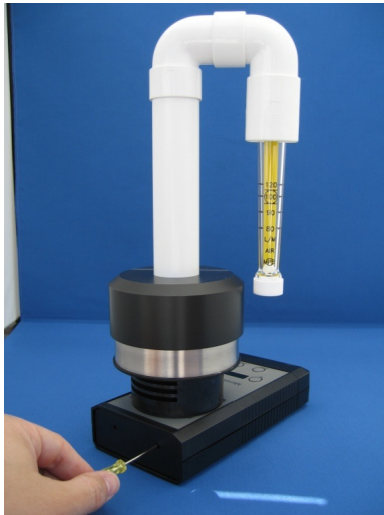

Figure 4: Location of adjustment screw hole
If the validation kit does not indicate correct flow, first check the rig is held firmly down and repeat the test. If the test fails a second time, the sampler should be returned to Cantium Scientific Limited or your local distributor for calibration. It is possible for users to adjust the flow if required by turning the adjustment screw, located as shown in figure 4, using the screwdriver supplied (5). The adjustments should always be made slowly. Self adjusting will invalidate the calibration certificate provided with the sampler.